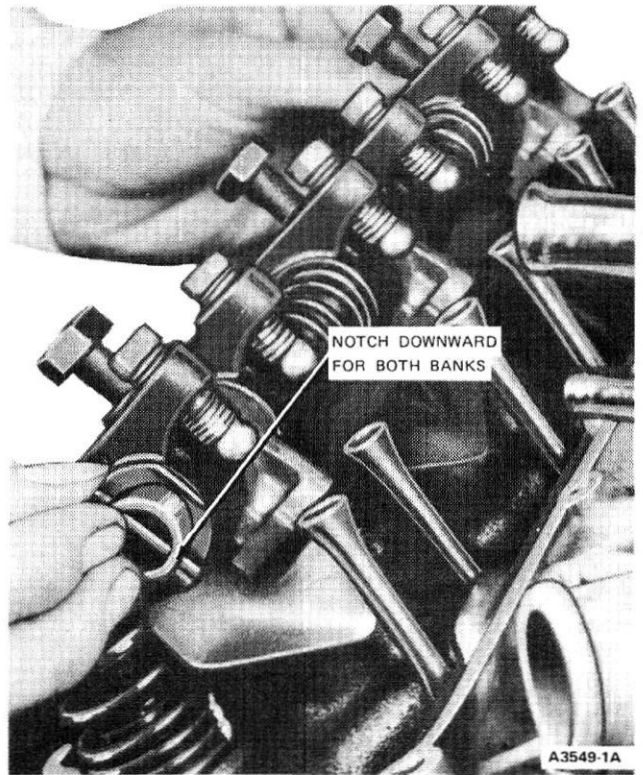

FIG. 7 Removing or Installing Rocker Arm Assembly
4. Remove rocker arm shaft stand attaching bolts by loosening the bolts two turns at a time, in sequence. Lift off rocker arm and shaft assembly and oil baffle (Fig. 7).
3. Install oil baffle and rocker arm shaft assembly to the cylinder head and guide adjusting screws on to push rods (Fig. 7).